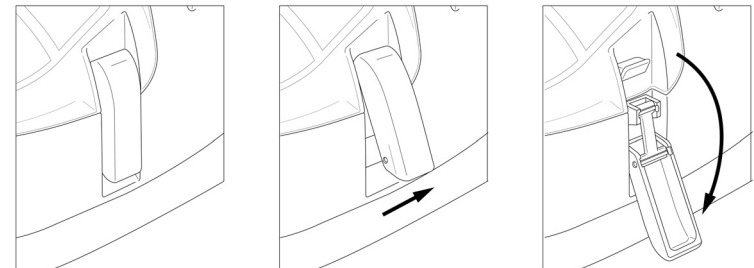

FIGURE 6
2. Make sure Main Control Switch is set to “Off” (0) position and power cord is unplugged from electrical outlet.
3. Unhook two locks that hold Water Filtration Chamber cover (FIGURE 6), and remove cover.